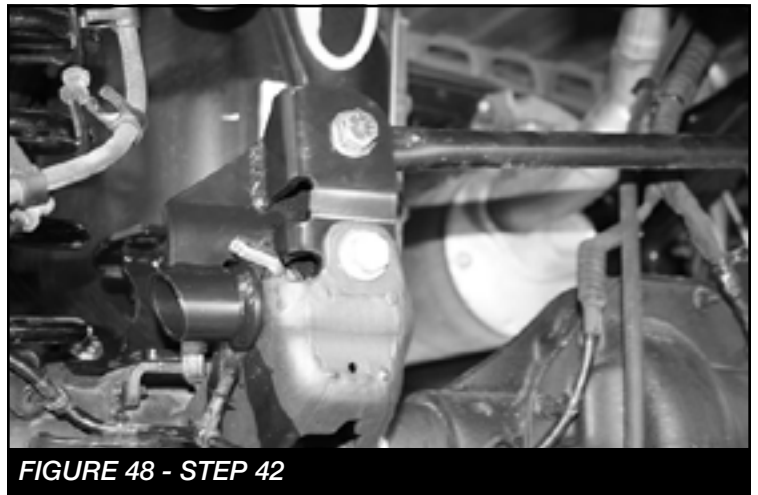

FIGURE 48 - STEP 42
42. Install the factory track bar to the new bracket using the supplied 9/16 X 3" hardware. Torque to 153 ft-lbs **SEE FIGURE 48**